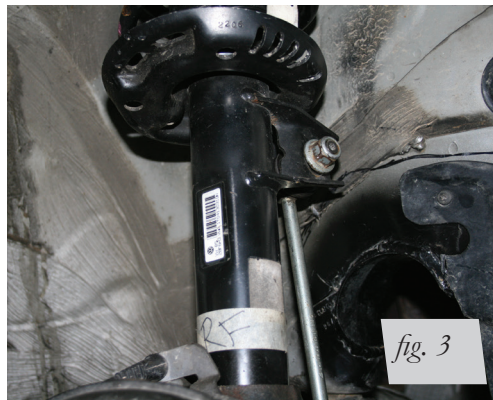

fig. 3
1. Unbolt the sway bar from the tab (Fig. 3). Sway Bar removal, see factory repair manual for instructions.